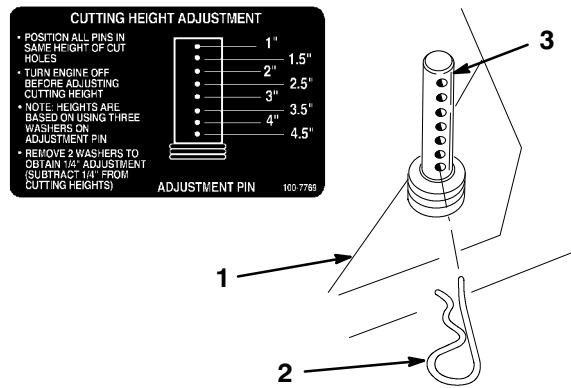

Figure 36
- Select hole in height-of-cut post corresponding to the height-of-cut desired. Lift on side and front to align holes and hairpin cotter (Fig. 36).